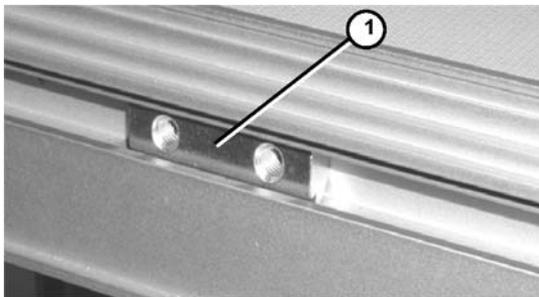

**Figure 11**
2. Partially thread controller lower mounting bar (**Figure 11, item 1**) to t-bar with screw (**Figure 11, item 2**).